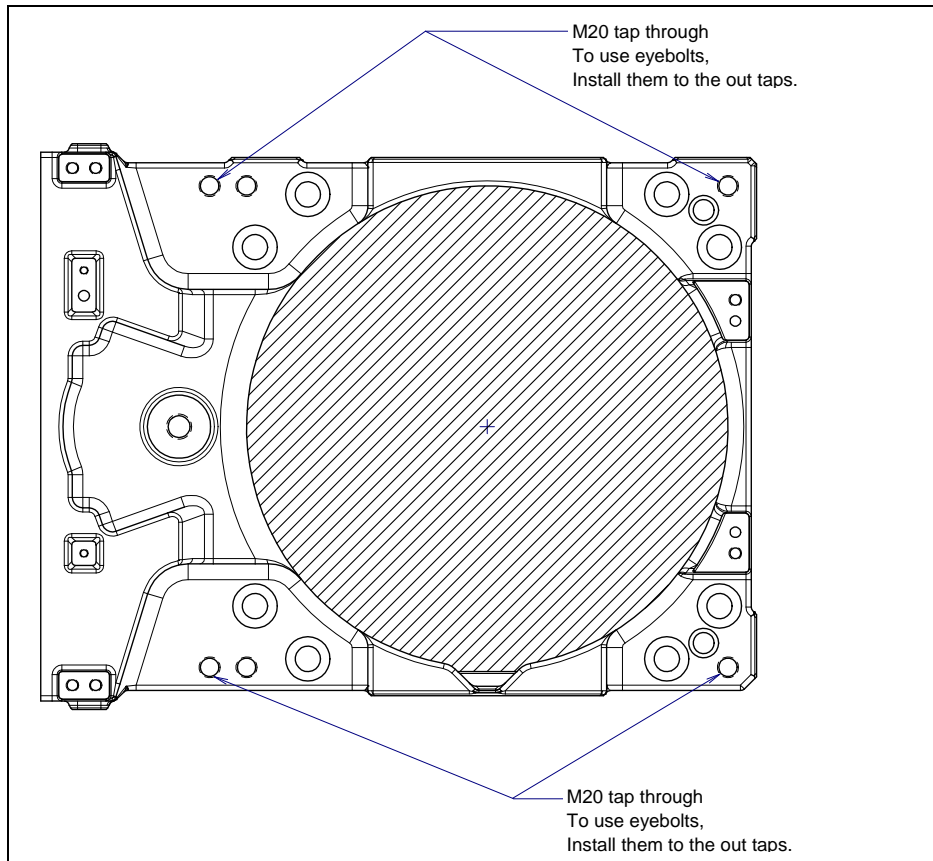

Fig. 1.1 (a) Position of the eyebolts and transportation equipment
- (1) Transportation using a crane (Fig. 1.1 (b))
- (2) Transportation using a forklift (Fig. 1.1 (c))